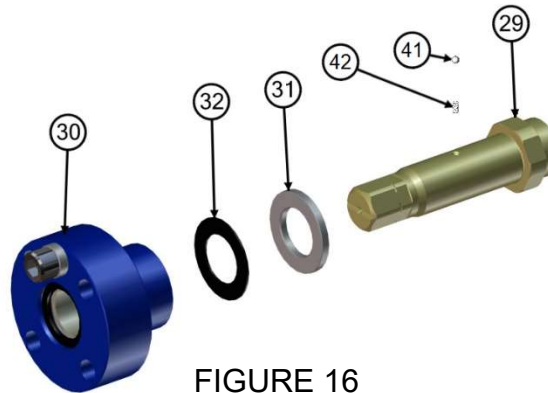

FIGURE 16
- 12) Place the thrust ring (31) (**FIGURE 16**) onto the stem (29), so it is against the hexagonal face of the stem.
- 13) Install the thrust bearing (32) onto the stem so it rests on the thrust ring.
- 14) Install the spring (42) and antistatic ball (41) into the small recess on the stem shaft. Ensure the antistatic ball remains flush with the stem during assembly. A tool to assist with this can be purchased from Argus.
- 15) Insert the stem into the stuffing box (30), ensure the thrust bearing sits against the stuffing box and the antistatic ball and spring remain in place.